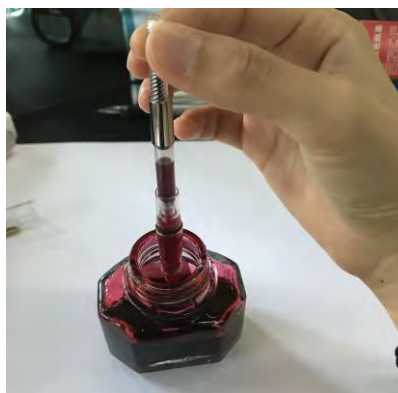

Figure 5.36 Absorb ink
- If you want to absorb ink, please remove pen-cap and rotate suction tube to absorb ink as shown in Figure 5.36.